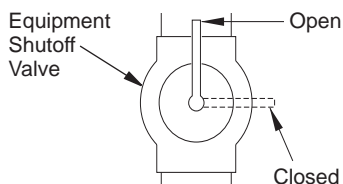

Figure 17 - Equipment Shutoff Valve
1. Close equipment shutoff valve (see Figure 17).
1. Open equipment shutoff valve (see Figure 17, page 16).
4. Close equipment shutoff valve (see Figure 17, page 16).